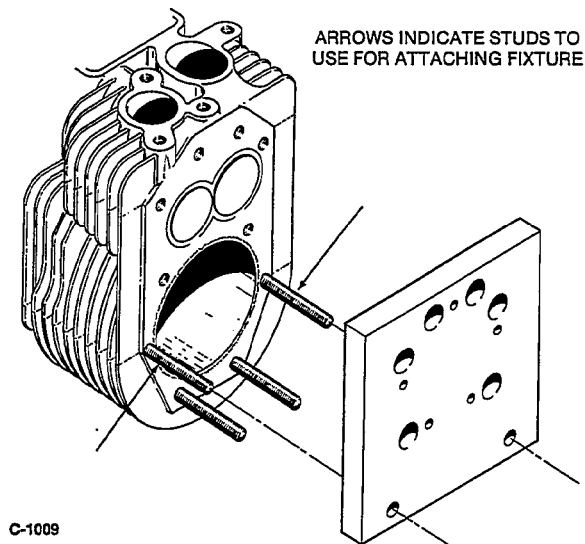

FIGURE 82. REPAIR FIXTURE
6. Fit the special repair fixture (Onan Tool #420-0398) to the surface of the block. Use the studs shown in Figure 82 and two cylinder head nuts to secure fixture to head of block.